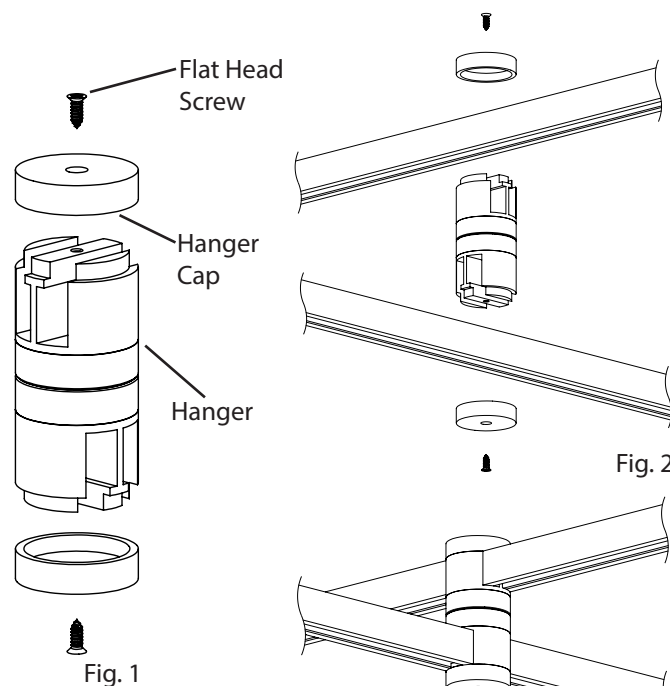

Fig. 3
3. Insert **Power Bar** into **Support**. Reattach **Support Cap** with **Flat Head Screw** (Fig. 3). **Note:** Ceiling Flush Mount Support (1XB02CE00x) is to be used in conjunction with Ceiling Mount Standard Power Feed (1XA08CE01x).
2. Align **Power Bars** with **Hanger** (Fig. 2). Press down firmly on the top of the **Top Power Bar** and bottom of **Bottom Power Bar** until the Power Bars clicks into place. Reattach **Hanger Cap** with **Flat Head Screw** (Fig. 3).
3. Insert **Power Bar**, into **Support**. Reattach **Support Cap** with **Flat Head Screw** (Fig. 3).
3. Pass a second **Power Bar** between the rods of the **Power Bar Hanger** (Fig. 3).